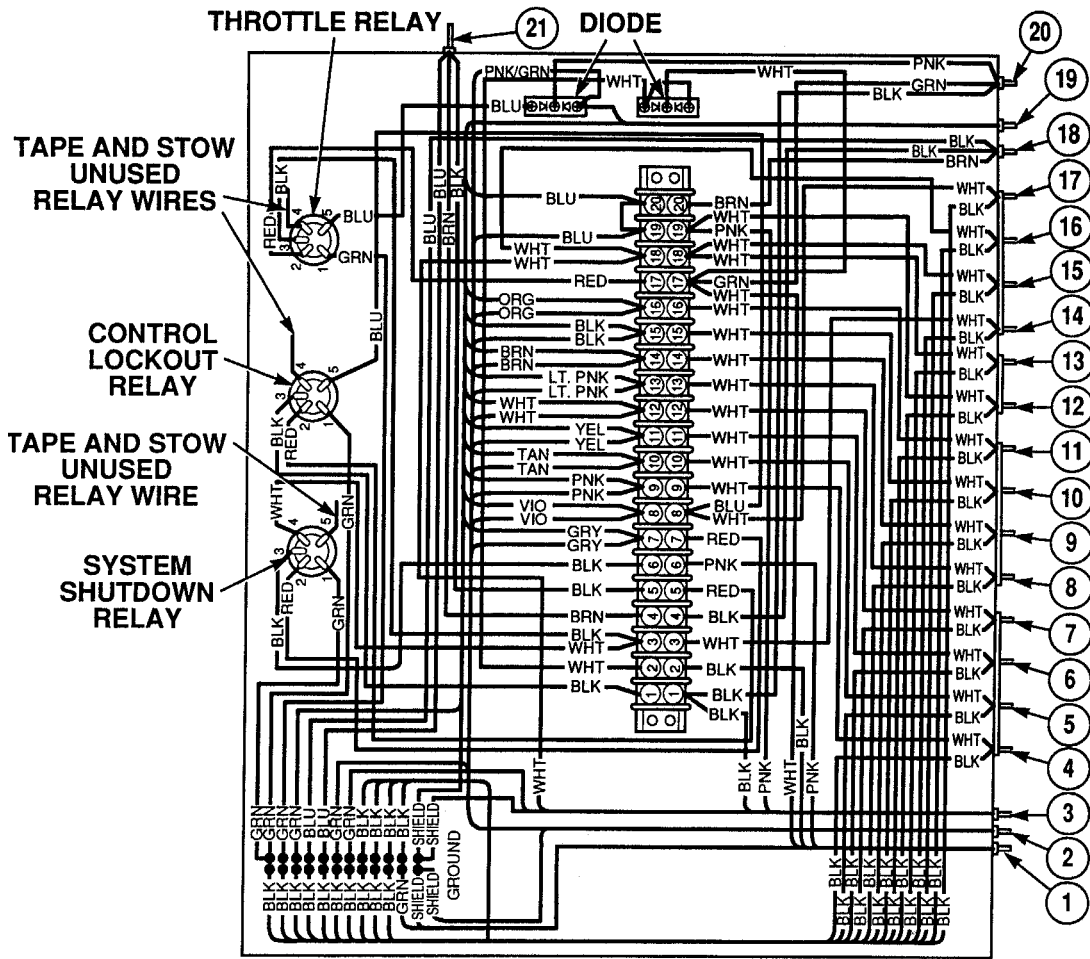

Figure 6-2. Junction Box Wiring
- Disconnect only wires required to complete task. Refer to Table 6-5 and Figure 6-2 for specific junction box wiring replacement.
- (b) Disconnect harness wires (5) from terminal strip (6), ground strip (7) and diodes (8) in junction box (4).
- Remove only harnesses and caps required to complete task. Refer to Table 6-5 and Figures 6-2 and 6-3.
- (c) Remove cap (9), washer (10), grommet (11) and harness (12) from junction box (4) as required.